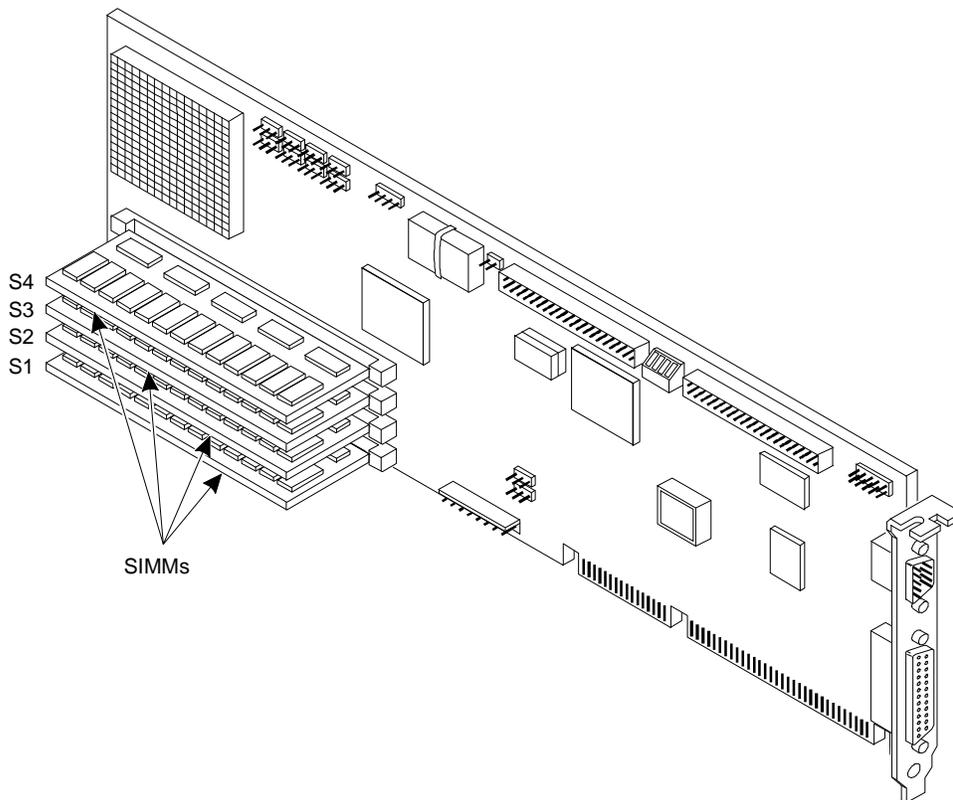

Figure 10-1. SIMM Sockets on the 486 CPU Circuit Card
The MAP/100C 486 CPU circuit card supports up to four 16-Mbyte SIMMs. You must test each one individually if poor system performance leads you to suspect memory damage. Figure 10-1 shows the location of the SIMMs on the 486 CPU circuit card.
2. Remove the *top* SIMM from the card (this is labeled "S4" in Figure 10-1).